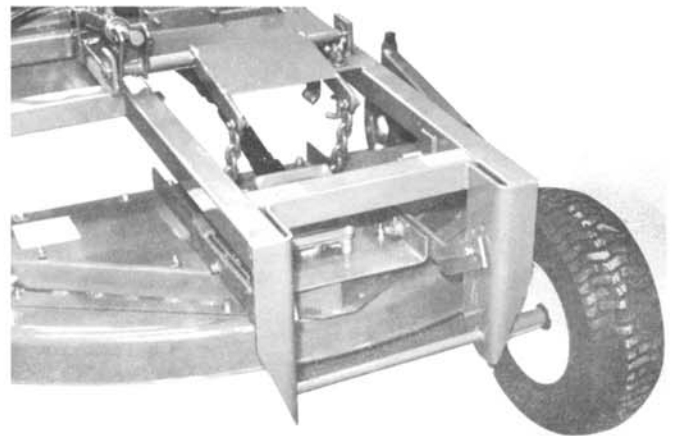

Fig. 9
3. Put the clevis pins in the adjustment holes for the lift arms that corresponds to the adjustment of the 72 inch mower as indicated by the numbered decals. See fig. 9.